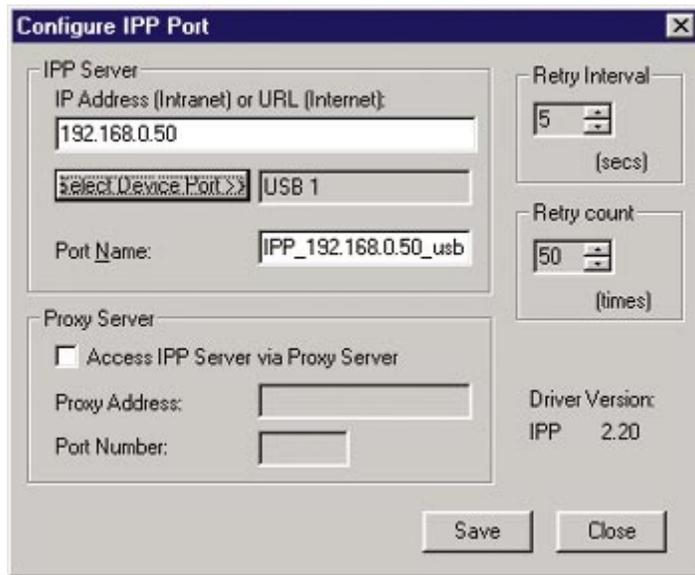

Figure 8-1
1. Run the **Add IPP Port** program entry created by the installation. A screen like the one shown in Figure 8-1 will be displayed.